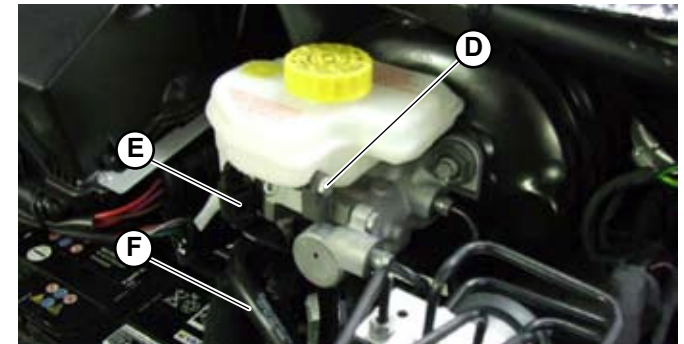

Fig.9
2. Tighten the screw (D-Fig.9).
3. Connect the connector (E-Fig.9).
4. Connect the pipe (F-Fig.9).